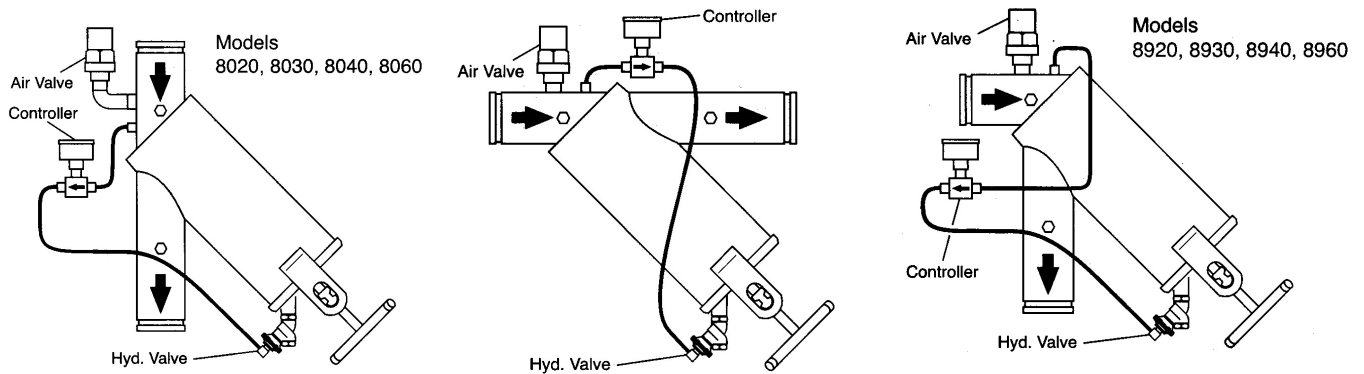

Figure 13
- ◆ Available in sizes 2", 3", 4" and 6" in in-line and angle configuration – Refer Figure 13 below